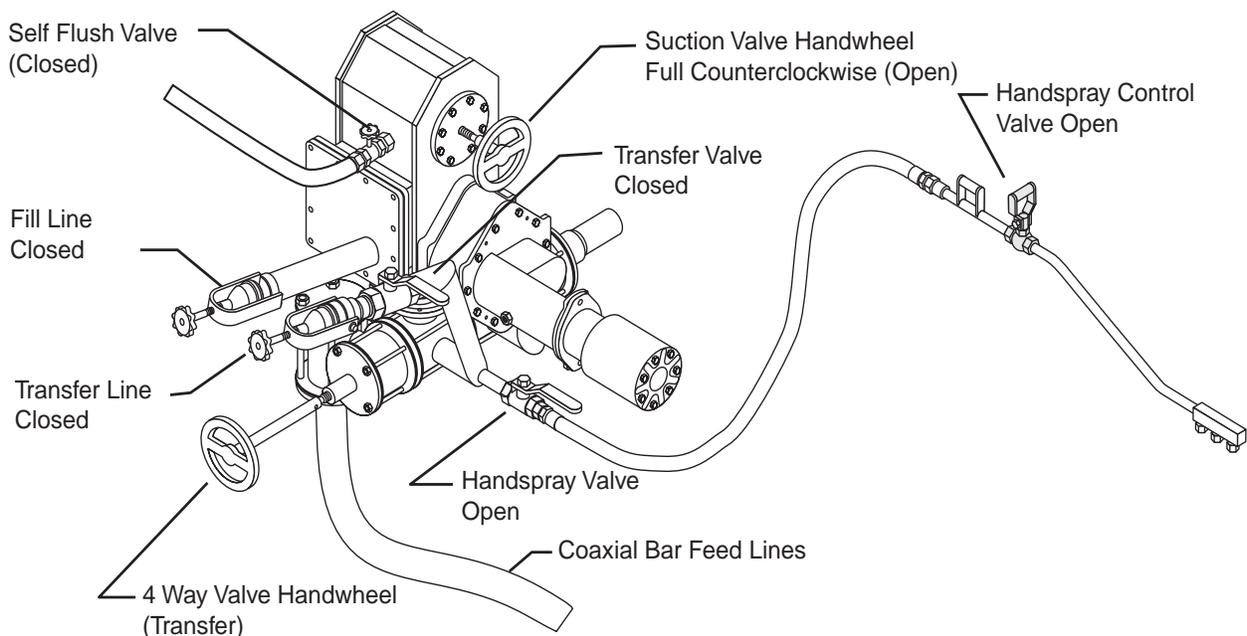

Figure 9. Valve Positions for Handspray Suckback
1. Set all of the valve positions. (see Figure 9)